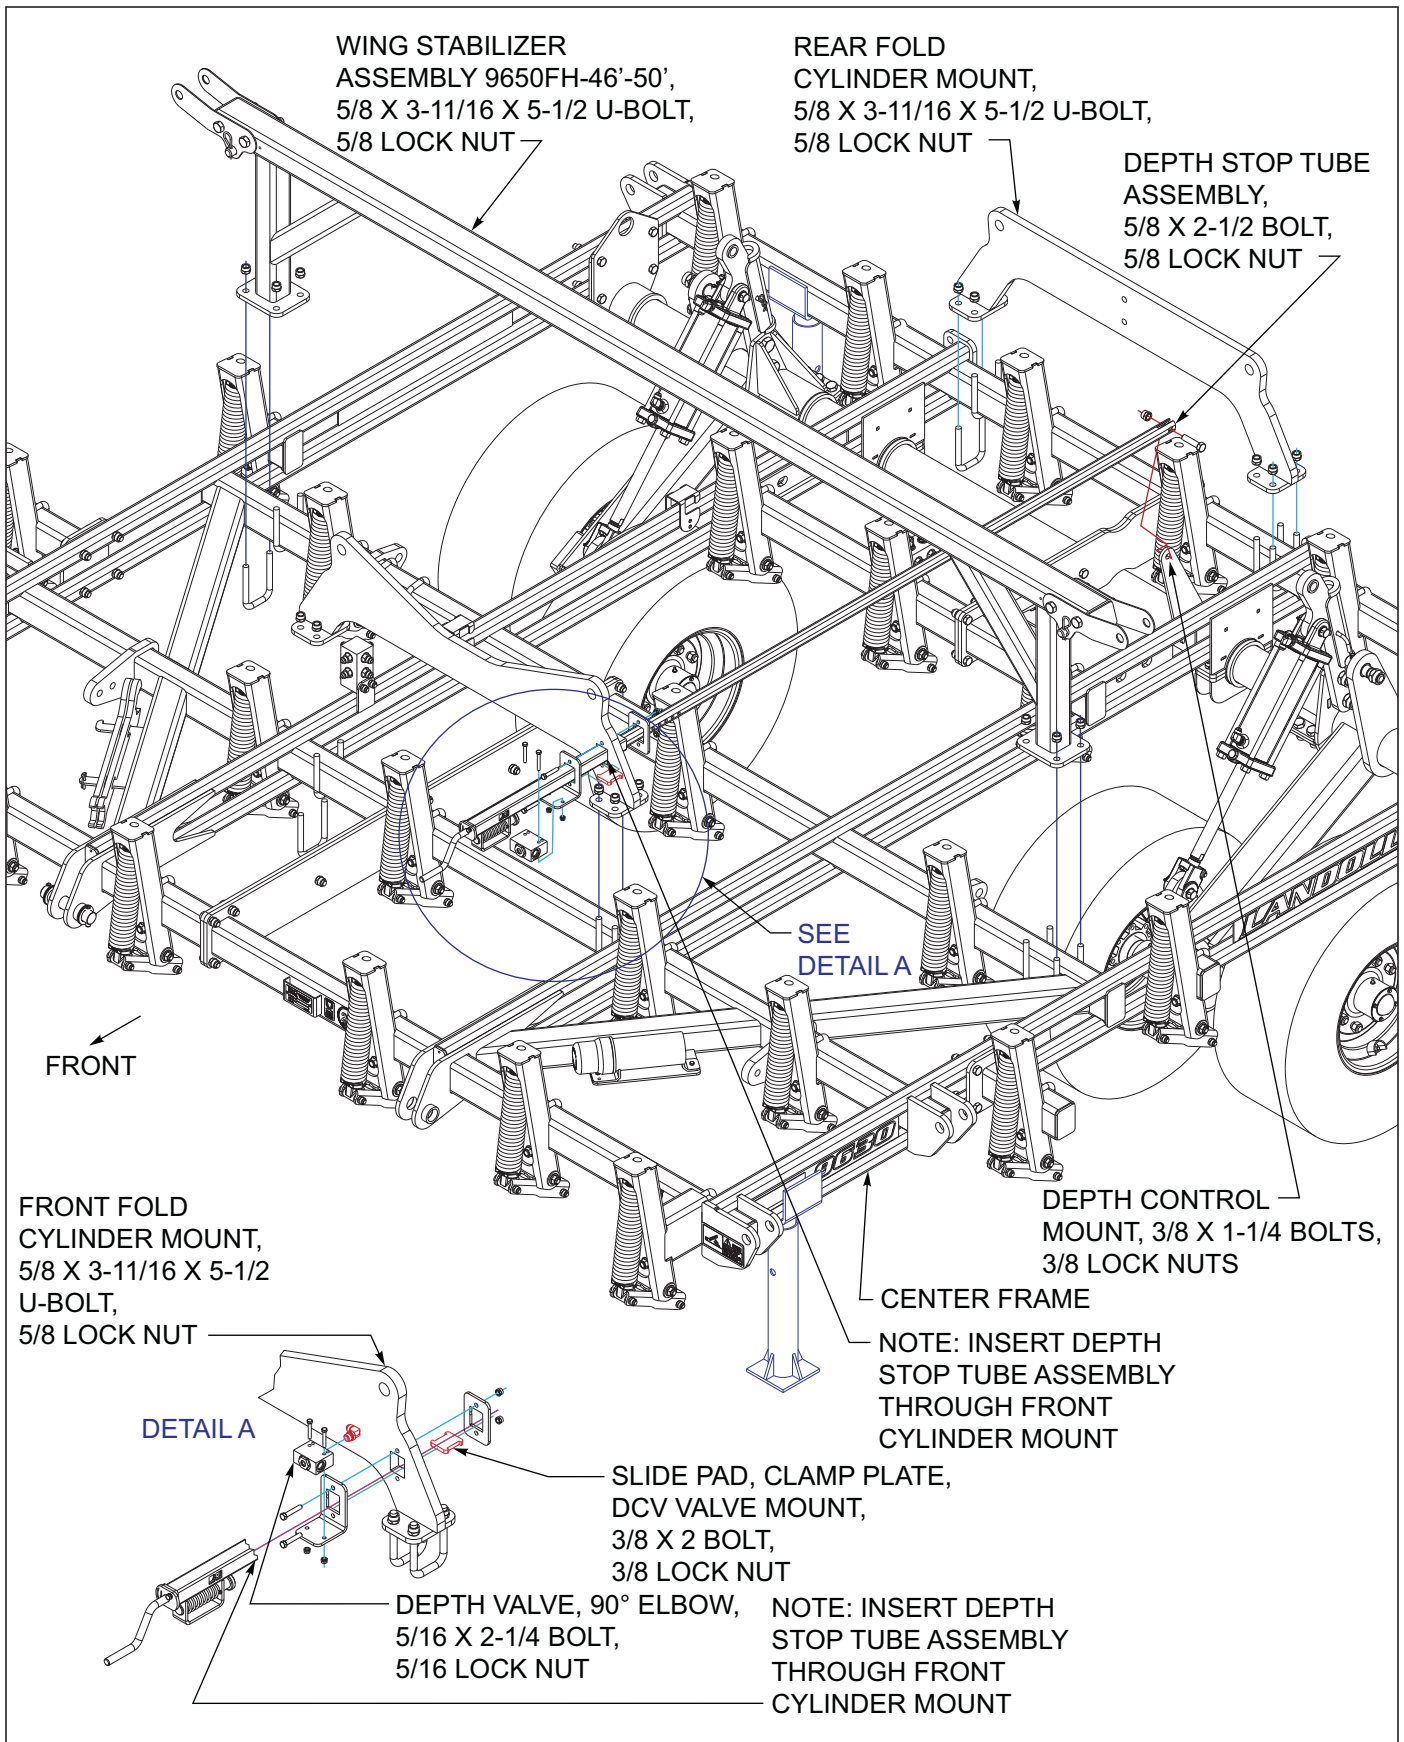

Figure 3-2: Center Frame Fold & Depth Control Assembly
1. Attach the front & rear fold cylinder mounts to the top of the center frame using 5/8 x 3-11/16 x 5-1/2 u-bolts and lock nuts *See Figures 3-2*. The rectangular hole in the front cylinder mount will be mounted to the left side of the center frame.